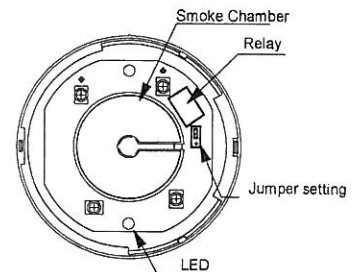

Figure 3. Schematic of detector structure When front cover is open.
- Refer to figure 3. There is a jumper head next to the relay on the PCB. Remove the jumper head and reinsert it in the NO position.